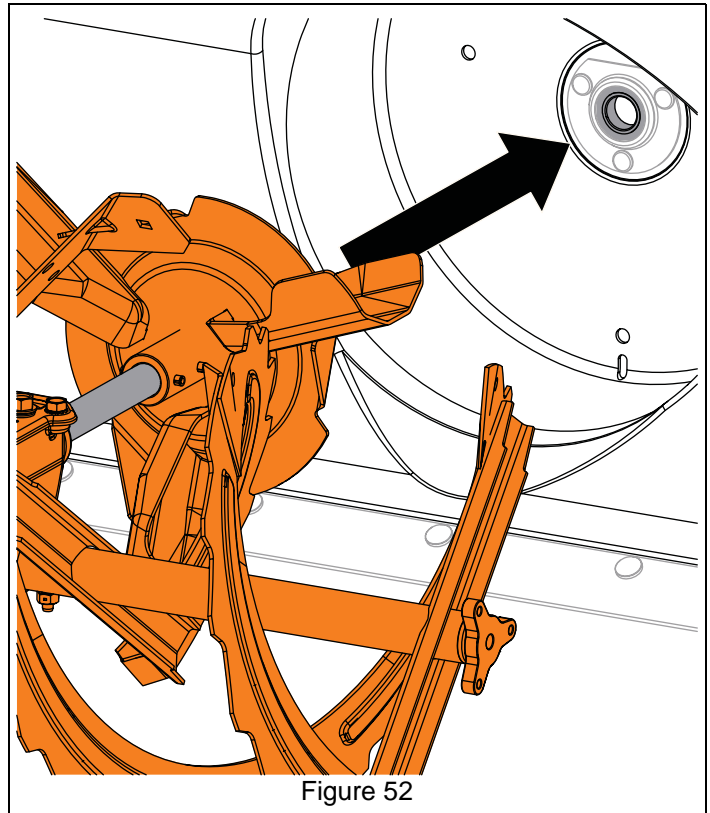

Figure 52
5. Reinstall auger assembly into housing so impeller shaft is seated in ball bearing at housing rear. See Figure 52.
4. Reinstall auger assembly into housing so impeller shaft is seated in ball bearing at housing rear. See Figure 52.